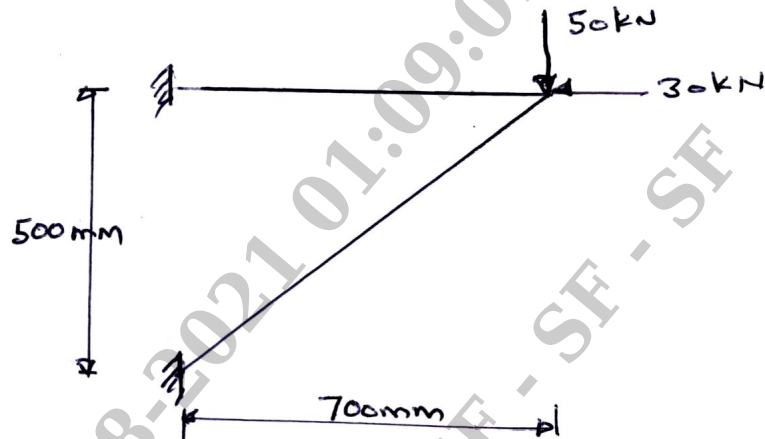

Fig.Q4(b)
b. For the two bar truss shown in Fig.Q4(b), determine nodal displacements element. Take  $E = 200 \text{ GPa}$ , area of each bar =  $1000 \text{ mm}^2$